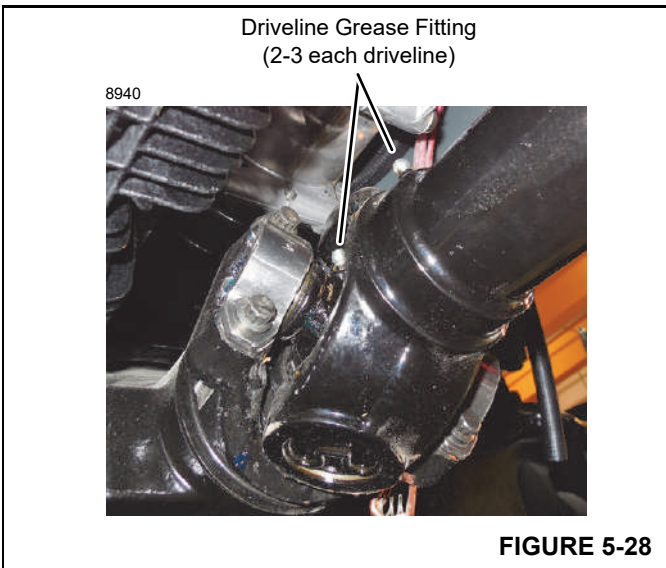

FIGURE 5-28
2. Clean the grease fittings (Figure 5-28).